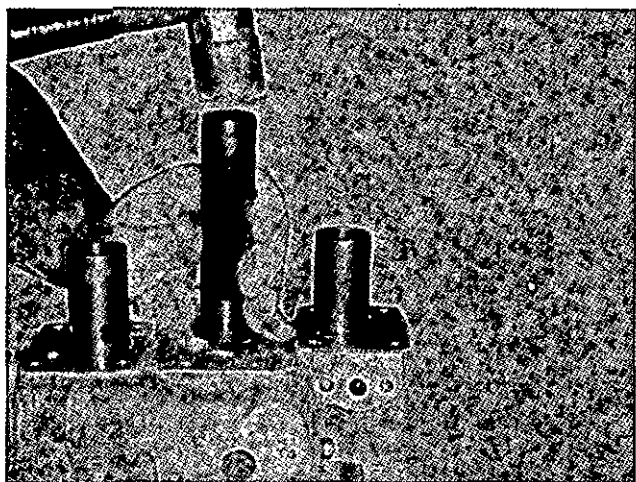

Fig. 2-7, (F5269). Drive the pressure valve into the PT (type G) VS housing.
3. Drive the new pressure valve into the VS housing with the ST-1250 Mandrel. Let 0.030 to 0.090 inch [0.76 to 2.29 mm] of protrusion out of the housing. The open end is assembled toward the outside of the housing. This lets the gear pump gasket touch the end of the valve when the gear pump is assembled. Fig. 2-7